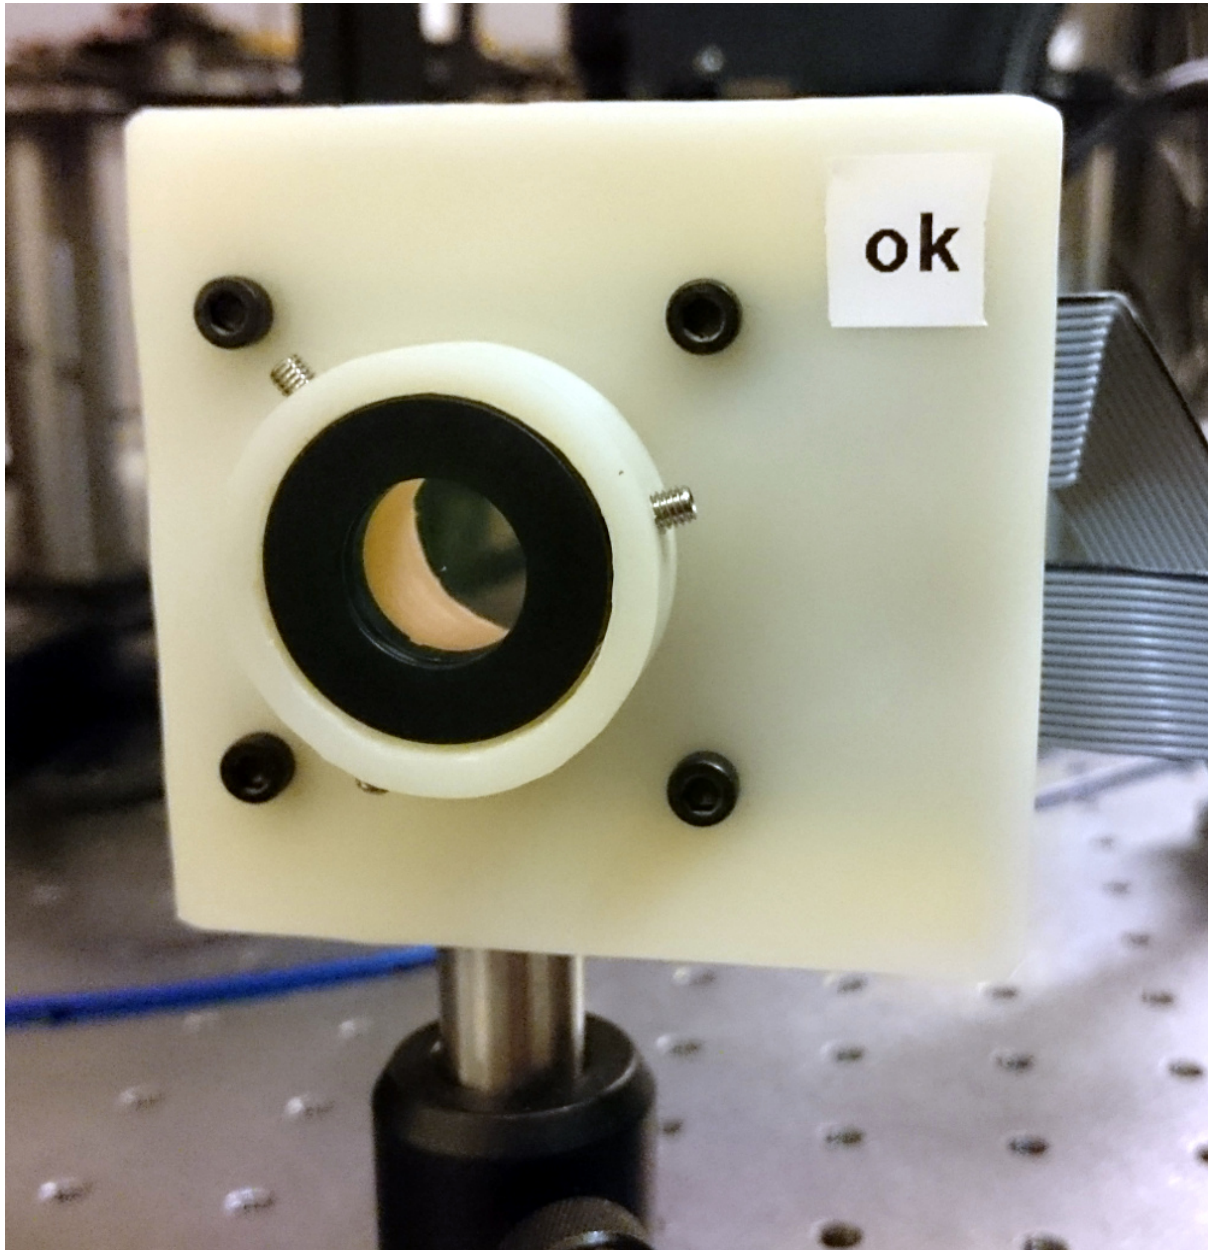

Figure 2.1: A picture of the assembled housing. The holder is equipped with a waveplate. Two of the three setscrews are clearly visible.
- Make three M3 taps radially and equally spaced into the holding ring. These taps will later be used by three setscrews to hold the waveplate in place, compare Figure 2.1 where two of the three setscrews are clearly visible.
With a cutter knife the edges of the octagon are slightly conically reduced. In this way, the waveplate holder can be easily put into the motor and by a light press will hold within the motor's bearing. Care is necessary here to not overbend the springs within the motor. Figure 2.1 shows a picture of the assembled motor housing.